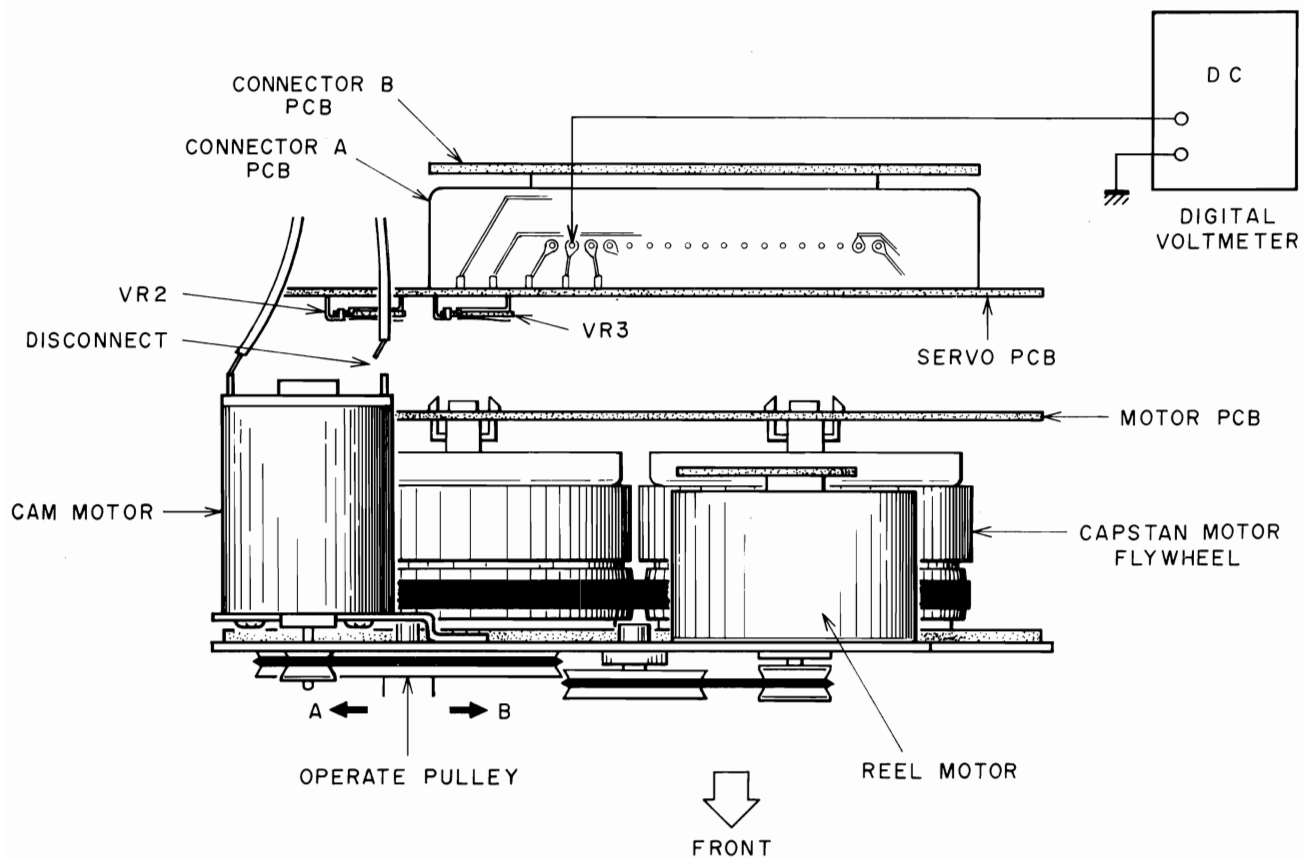

Fig. 5-4
5-4 POTENTIO METER PRESET VOLTAGE ADJUSTMENT (Refer to Figs. 5-4 to 5-8)
(Refer to Fig. 5-4 and Fig. 5-5)
- b. Connect the digital voltmeter as shown in Fig. 5-4.
- b. Adjust VR2 slightly so that center of Mark (A) to center of Mark (B) are coincide at STOP Mode as shown in Fig. 5-6 (STOP Mode voltage is about 7.35V when power supply voltage 9.75V at ① on Fig. 5-4).